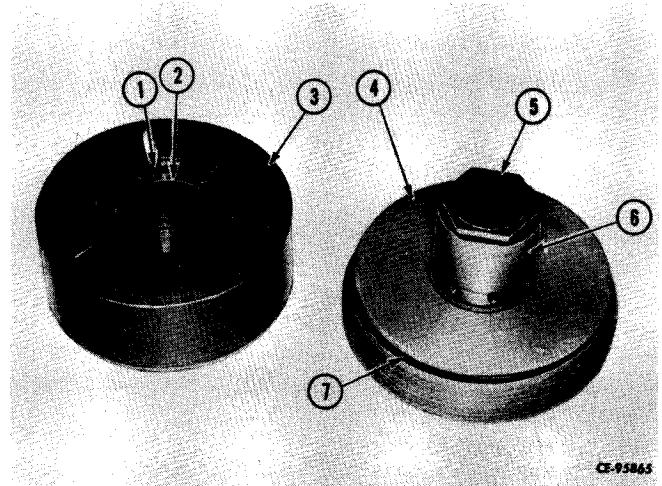

Figure 13-12
Separate piston (3, Fig. 13-12) using a shop press. Remove snap ring (1) and washer (2) from piston. Remove cap screw (5), guide and spring (6). Remove and discard "O" ring (7).
Install spring and guide (6, Fig. 13-12) in plug (4). Secure with bolt (5). Prior to bolt installation, apply a light coat of "LOCTITE-C" to bolt threads. Install new "O" ring (7). Refer to "INTRODUCTION," Fig. I-1, for correct "O" ring installation. Install washer (2) in piston (3) and secure with snap ring (1).